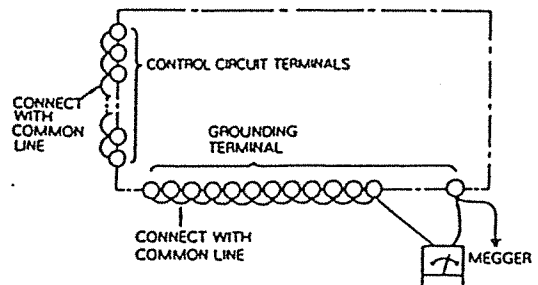

Fig. 4.3 Wiring for Megger Test
As shown in Fig. 4.3, share a line to connect the VS-676 AC main circuit I/O terminals (S)(R)(S)(T)(N)(P1)(P2)(P3)(V)(W). Also, connect the control circuit terminals (1) to (15), (17) to (30) with another common line, and perform the megger test only between the main circuit common line and the ground (grounding terminal (E)).